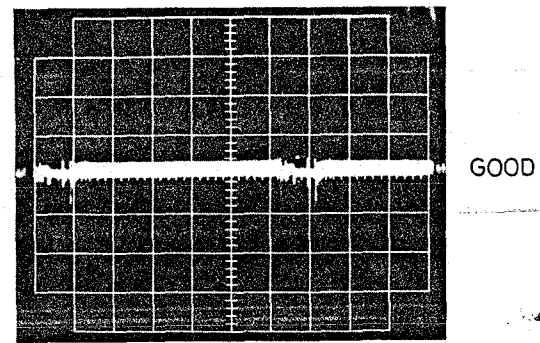

Fig. 4-18 Dark Offset Adjustment
4. Adjust AGC OFFSET control (RT1101) so that the centre at waveform matches the blanking level. (See Fig. 4-18)